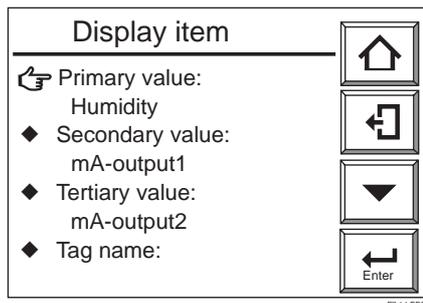
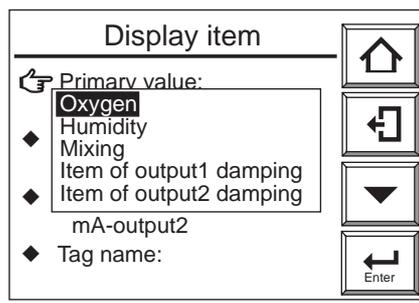

Figure 7.14 Display Item Display
Figure 7.15 Display Item Selection
- (3) In the above Display setup display, select the Display item. The Display item display (Figure 7.14) then appears. From this display, select the Primary value and press the [Enter] key to display the Display item selection display (Figure 7.15).
- (4) Select the Secondary and Tertiary values in the same manner as in the steps above.
- (5) Consult Table 7.2, “Display Items,” enabling the selection of display items in individual display areas.